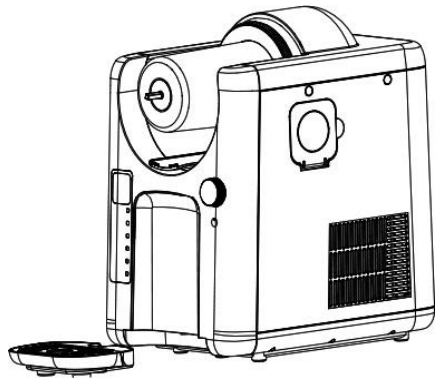

Fig. 9
10. Remove the mixer (Fig. 9) and then wipe any remaining liquid from the base housing. Clean the cooling cylinder and the seal with a clean cloth.